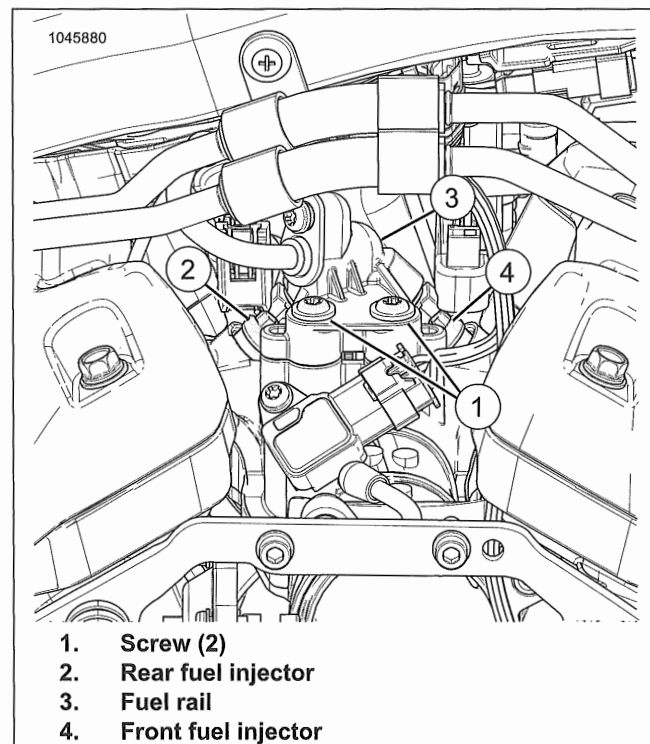

Figure 6-32. Fuel Injectors
2. See Figure 6-32. Remove fuel rail and fuel injectors.
- a. Remove screws (1).
- b. Remove fuel rail (3).
1. See Figure 6-32. Install fuel injectors to intake manifold.
- a. Install fuel rail (3).
- b. Install screws (1). Tighten.